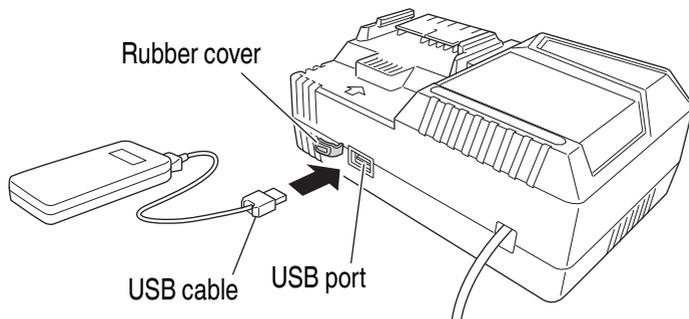

Fig. 3
- (2) Connect the USB cable. (**Fig. 3**)